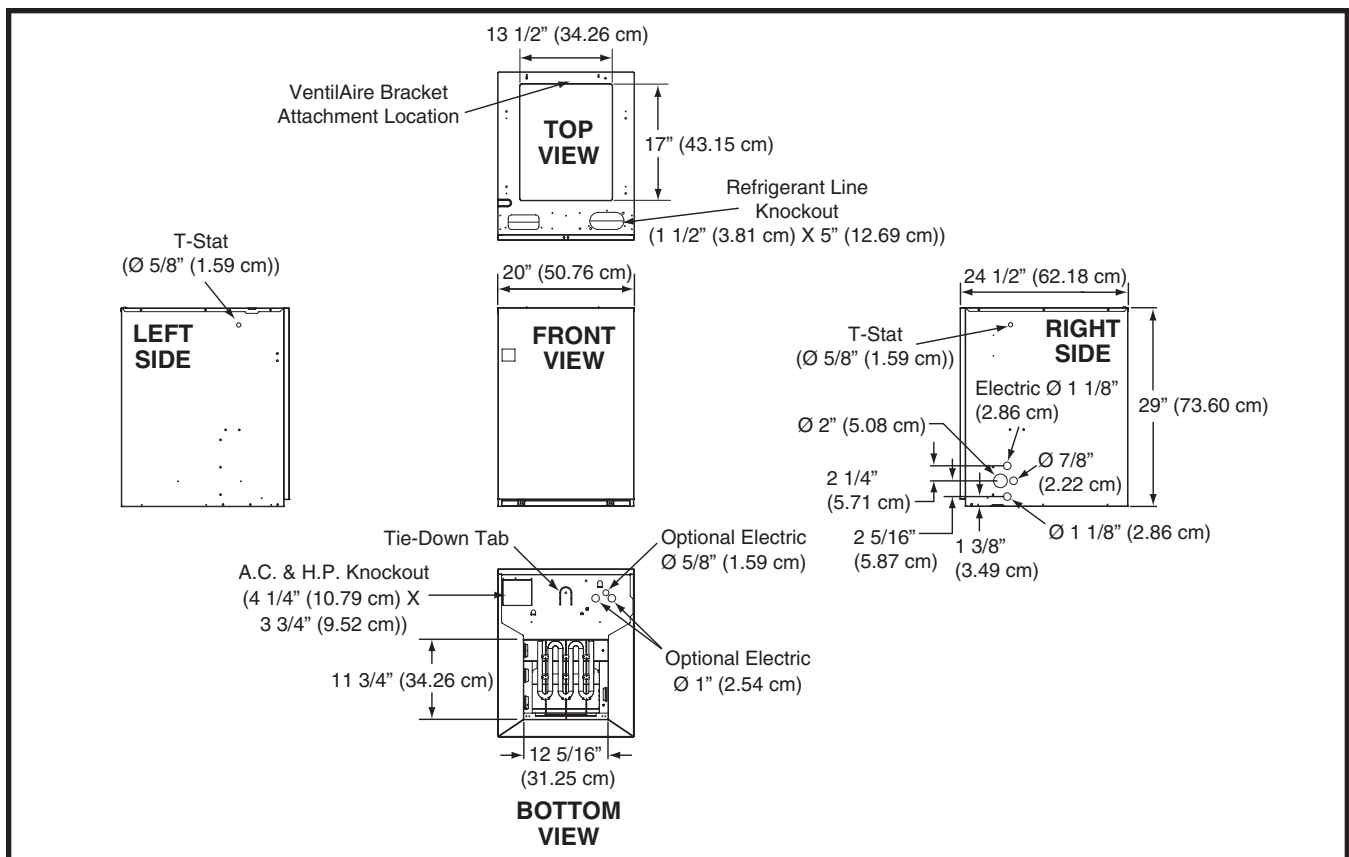
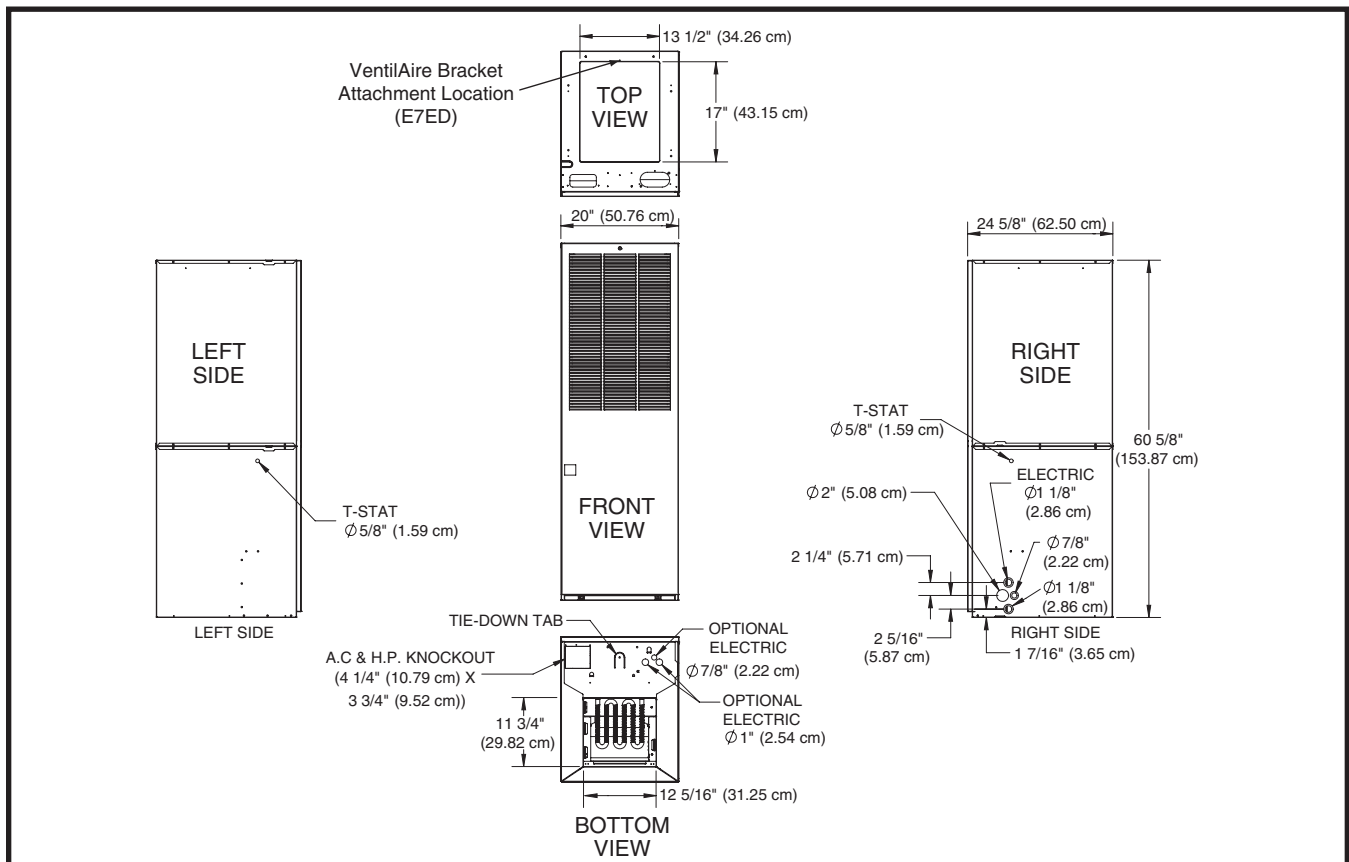

Figure 17. E7EM Physical Dimensions
Figure 18. E7EU & E7ED Physical Dimensions
3. Route 230V supply circuit(s) and 24V wiring to closet. See Figure 17 \(page 13\) or Figure 18 \(page 13\) for appropriate locations.